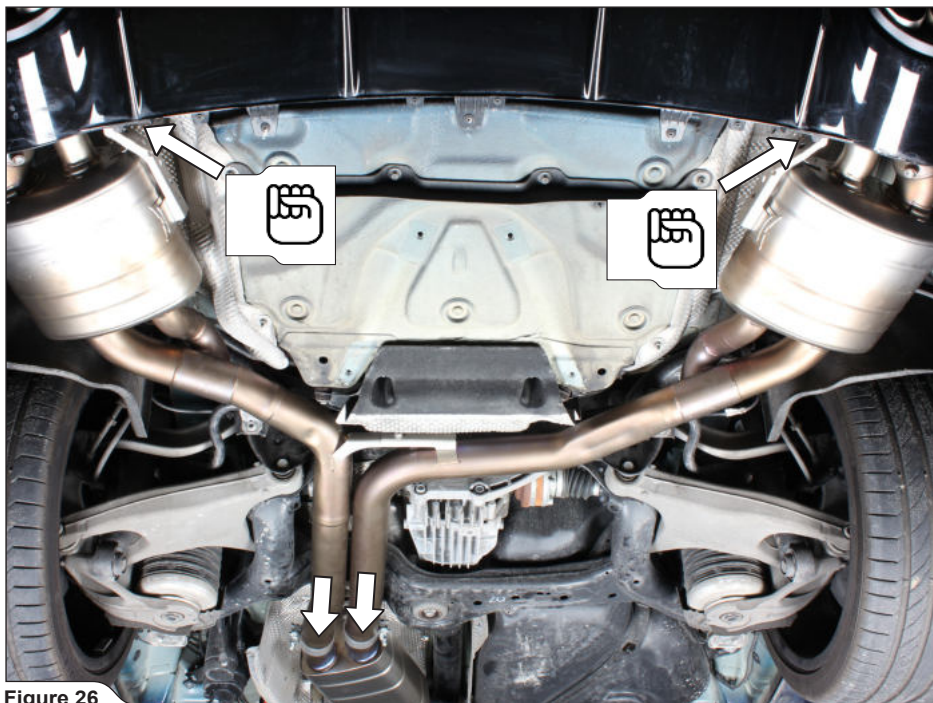

Figure 26
9. Slide the mufflers simultaneously onto the collector and hand tighten the stock rubber brackets onto the chassis (**Figure 26**).